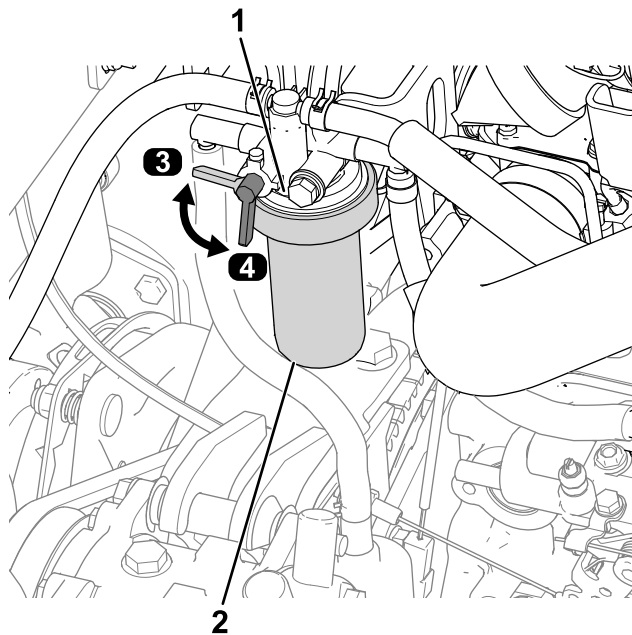

Figure 56
1. Rotate the fuel-valve lever to the OFF position (Figure 56).
2. Clean the area around the fuel-filter head (Figure 56).
3. Remove the filter and clean the filter head mounting surface (Figure 56).
6. Rotate the fuel-valve lever to the ON position (Figure 56).